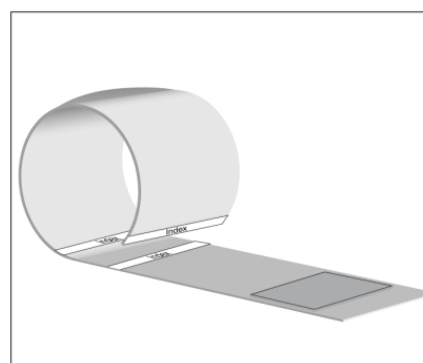

Figure 12: Relevance of the index
- The dashed white line at the end of the cuff is located between the two dashed **Index** Lines, when you close the cuff (if this is not the case, select another cuff size, see Figure 12)